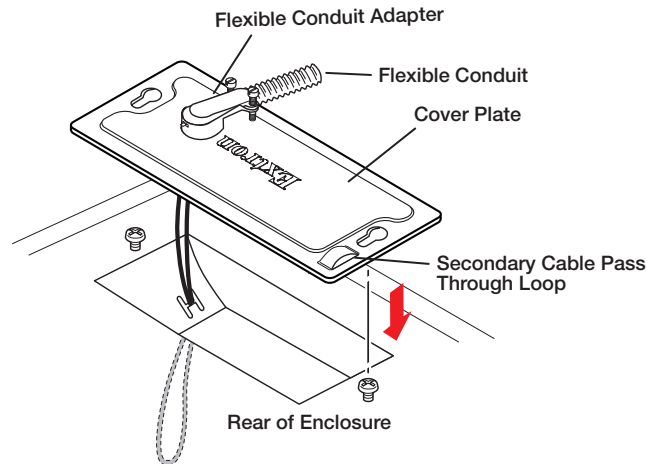

Figure 28. Routing the Cables through the Cover Plate Using a Flexible Conduit
- Insert the conduit into the cover plate opening using an appropriate conduit adapter, and secure the conduit to the plate as shown in figure 28.